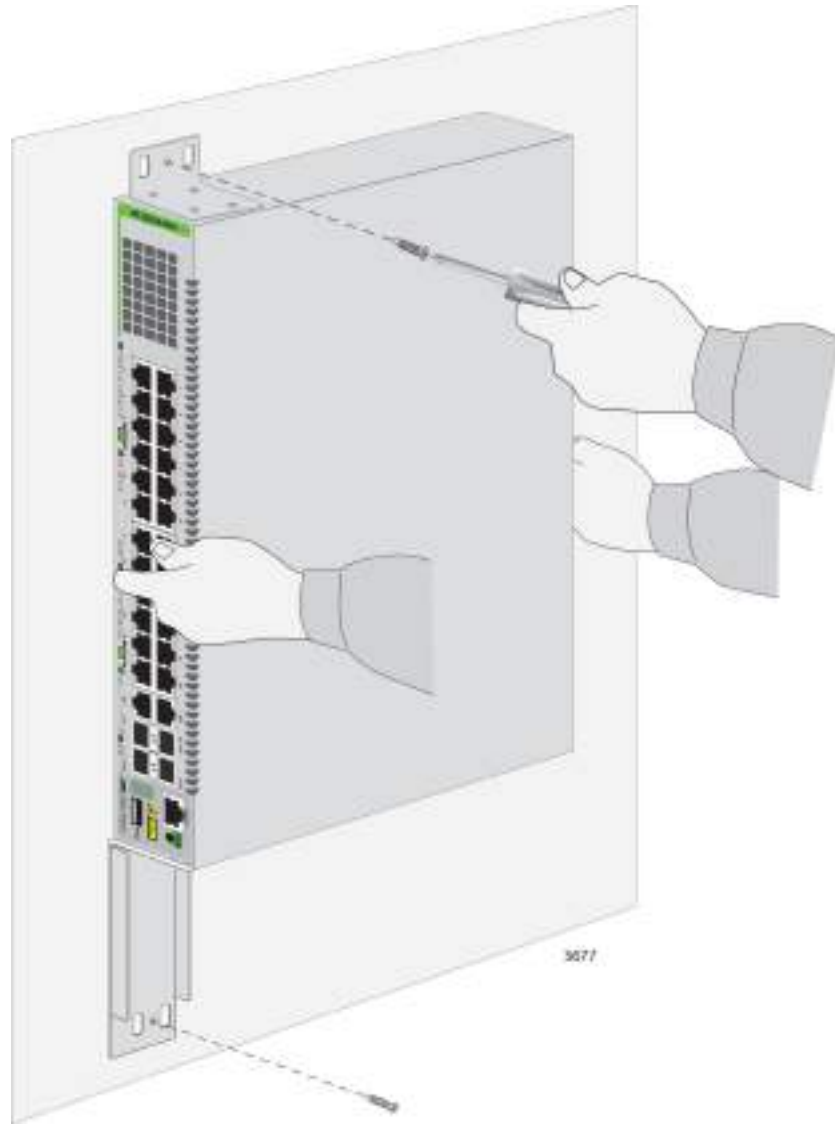

Figure 28. Installing the AT-GS924MX Switch on a Wall
9. Have another person hold the switch at the selected wall location while you secure it to the wall with the two provided screws. See Figure 28 on page 75. Be sure to observe the following guidelines as you install the switch on the wall: